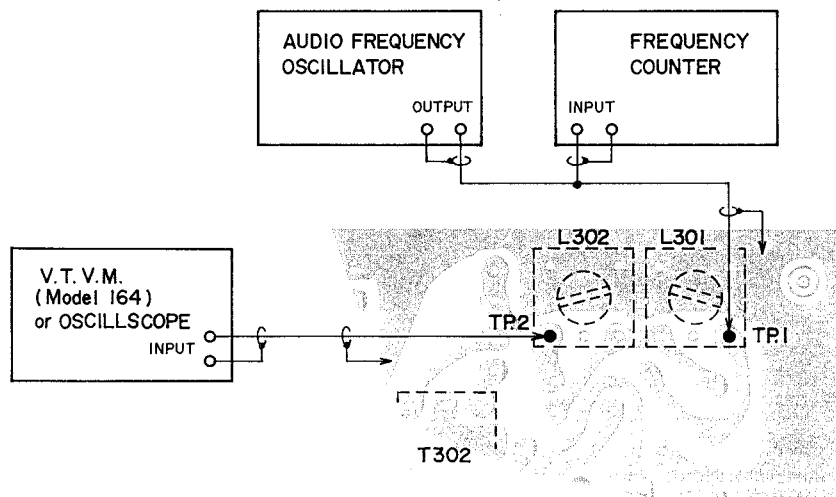

Fig. 19 FM MPX. AMP. P.C. BOARD 3008 (Reverse Side)
- 1) Connect the various measuring instruments as shown in Fig. 19.
- 2) Supply a 19 kHz (output level 300 mV) accurately determined by a frequency counter to test point TP. 1 of the FM MPX. Amp. P.C. Board from the audio frequency oscillator as shown in Fig. 19, and adjust the core of FM MPX. Amp. P.C. Board coil C301 shown in Fig. 20 so that indication of the high sensitivity V.T.V.M. connected to TP.2 or the wave height value of the oscilloscope is minimum.